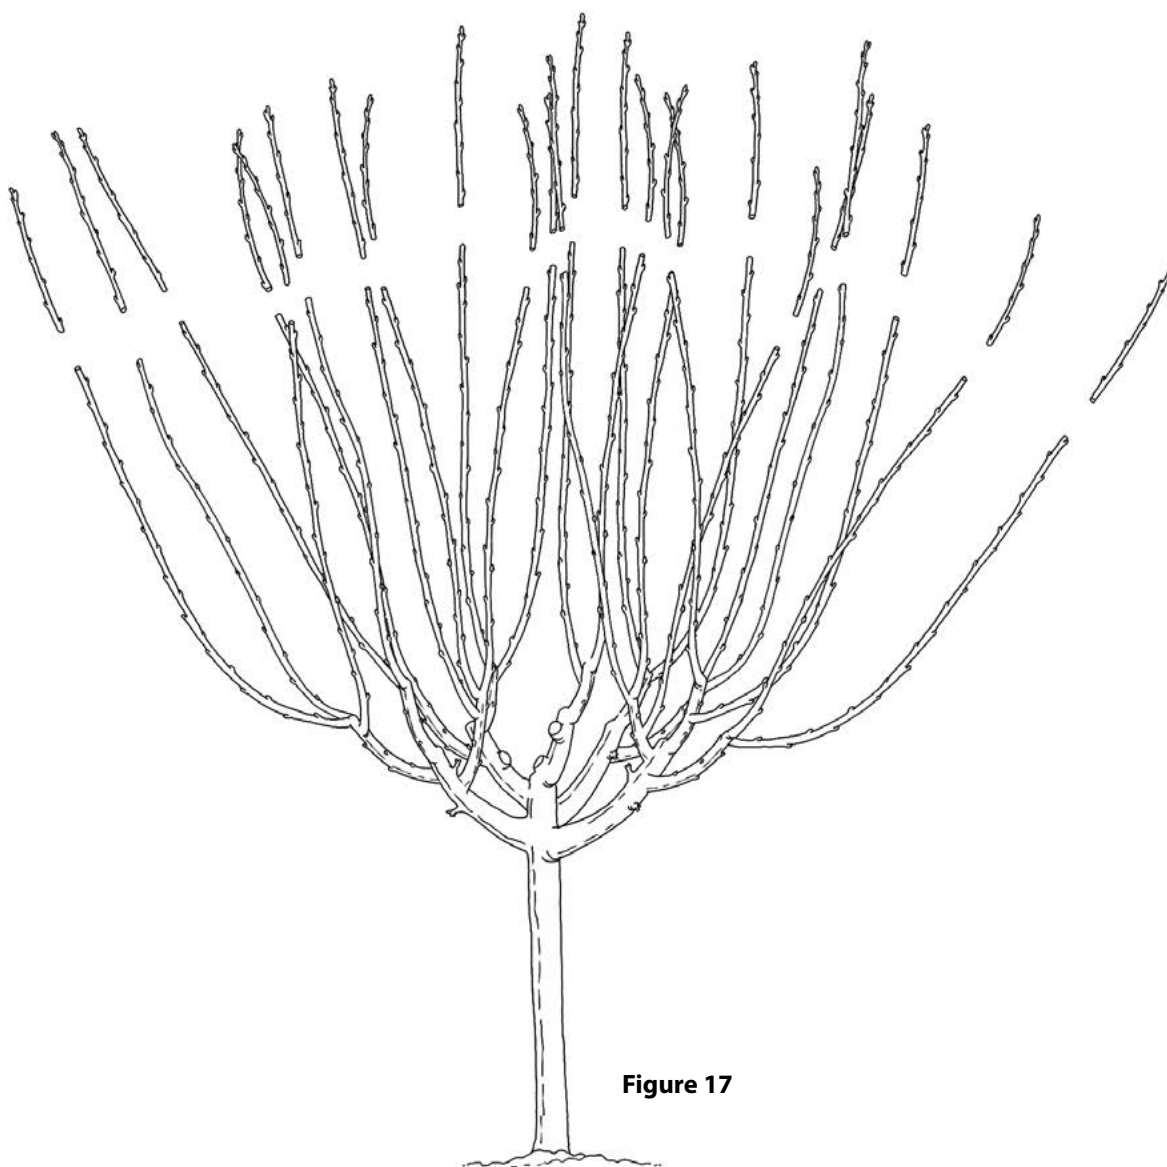

Figure 17
- Leaders on moderately or highly productive varieties of semi-vigorous rootstocks and highly productive varieties of full-sized rootstocks must be tipped. Remove a quarter of the new growth to balance the leaf-area-to-fruit ratio and produce high-quality fruit (Figure 17).
- If the tree is not yet 8 feet tall, remove a quarter of the new shoot growth from each leader. (Figure 17, page 21)